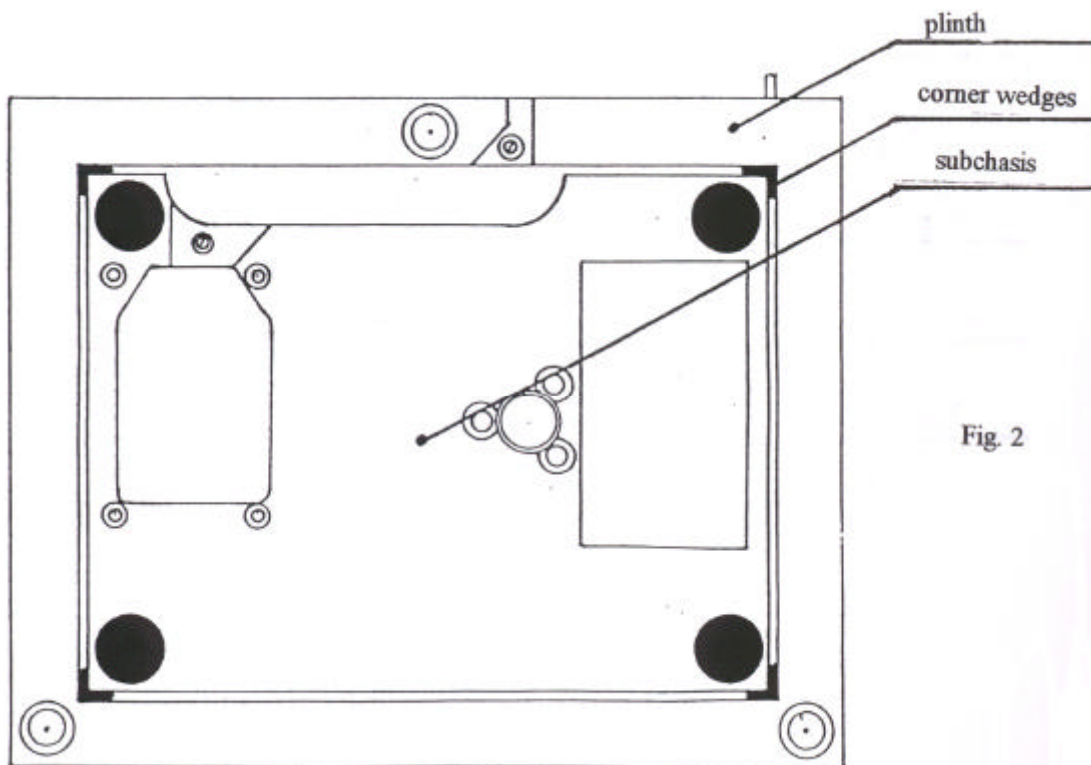

Fig. 2
7. On the underside of turntable between subchassis and plinth are four cardboard corner wedges which should be removed by pulling down. (Fig. 2)